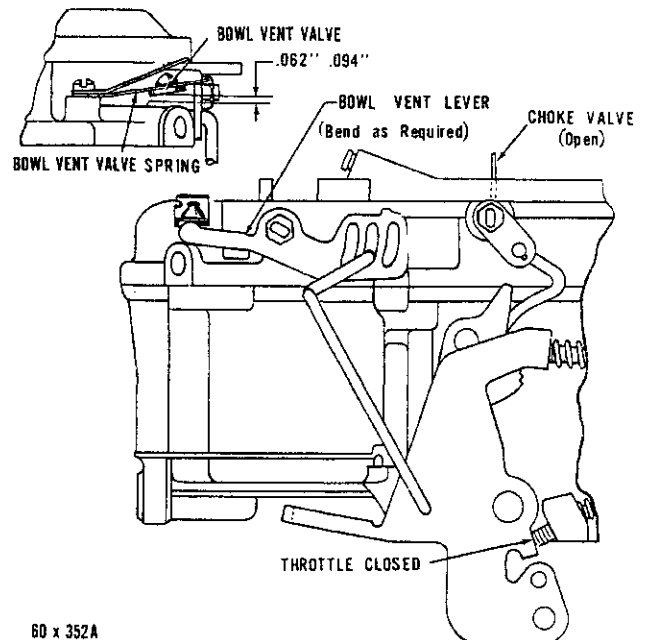

Fig. 25—Bowl Vent Valve Setting
(3) If an adjustment is necessary, bend the pump rod at the point shown, using Tool T109-213, until correct travel has been obtained.
d. Bowl Vent Valve Setting (Fig. 25)